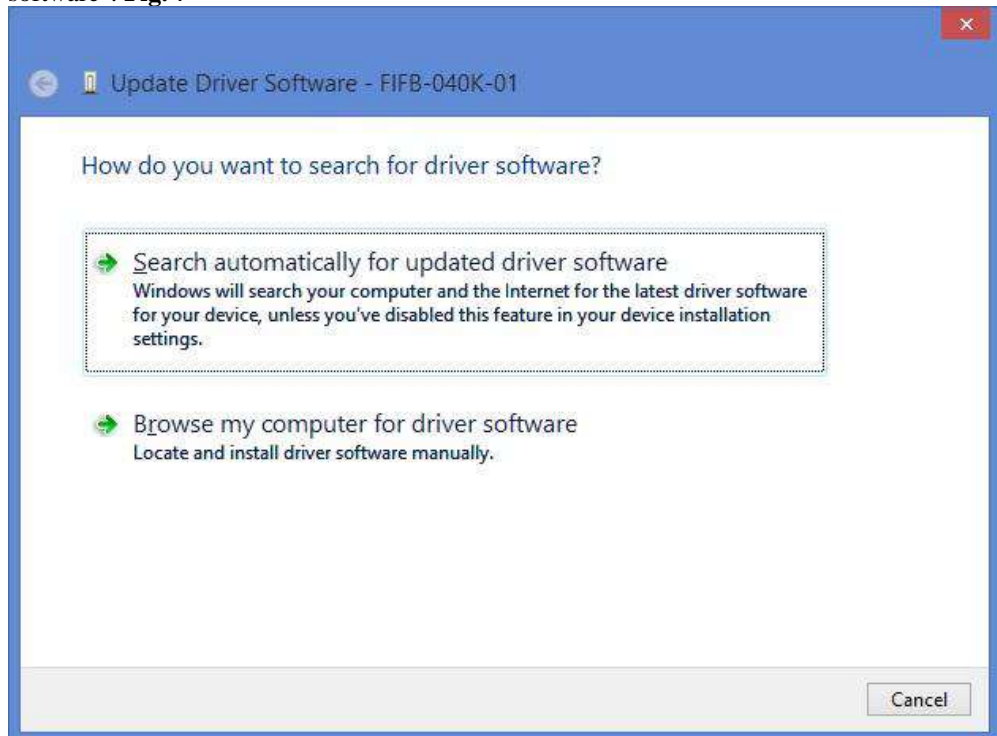

Figure 7
12. "Update Driver Software FIFB-040K-01" window opens. Select "Browse my computer for driver software". **Fig. 7**